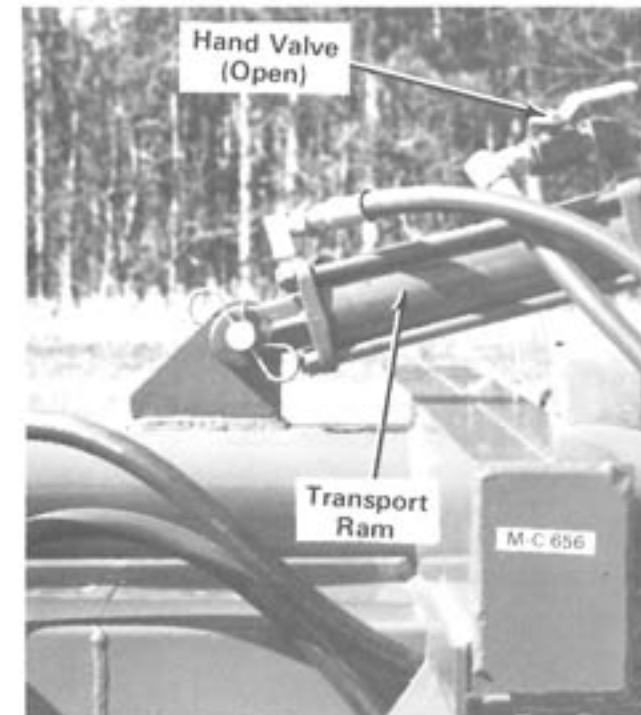

Figure 15H
9. Connect the transport ram hydraulic hose to the tractor. Open the hand valve on the transport ram, see Figure 15H.